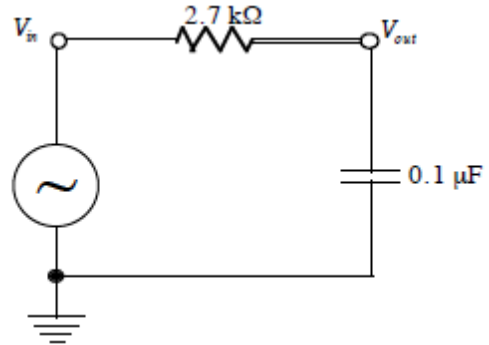

Figure 3: Simple RC Circuit
Set up the simple RC circuit illustrated in Figure 3. Use a capacitor with a 5% tolerance. Use the function generator as the voltage source. Set it for a square wave pulse with a frequency of 1 kHz and an amplitude of 2 V. Sketch the waveform in your lab notebook. From your sketch of the waveform, determine the time constant of the circuit. Compare this value to the theoretical value (RC).
In this section, you will measure the frequency response of a low pass filter circuit and see what the "low pass" name refers to. Construct the circuit shown in figure 3 (same as in the previous section)